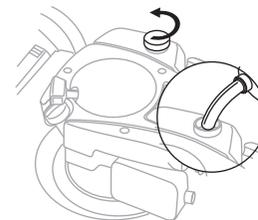

Fig.5
1. Fill engine with fresh, clean, regular unleaded gasoline with a minimum of 87 octane. Gasoline with up to 10% ethanol "E10 rating" is acceptable. Fill fuel tank to bottom of tank filler neck. **DO NOT OVERFILL.** (Fig.5)